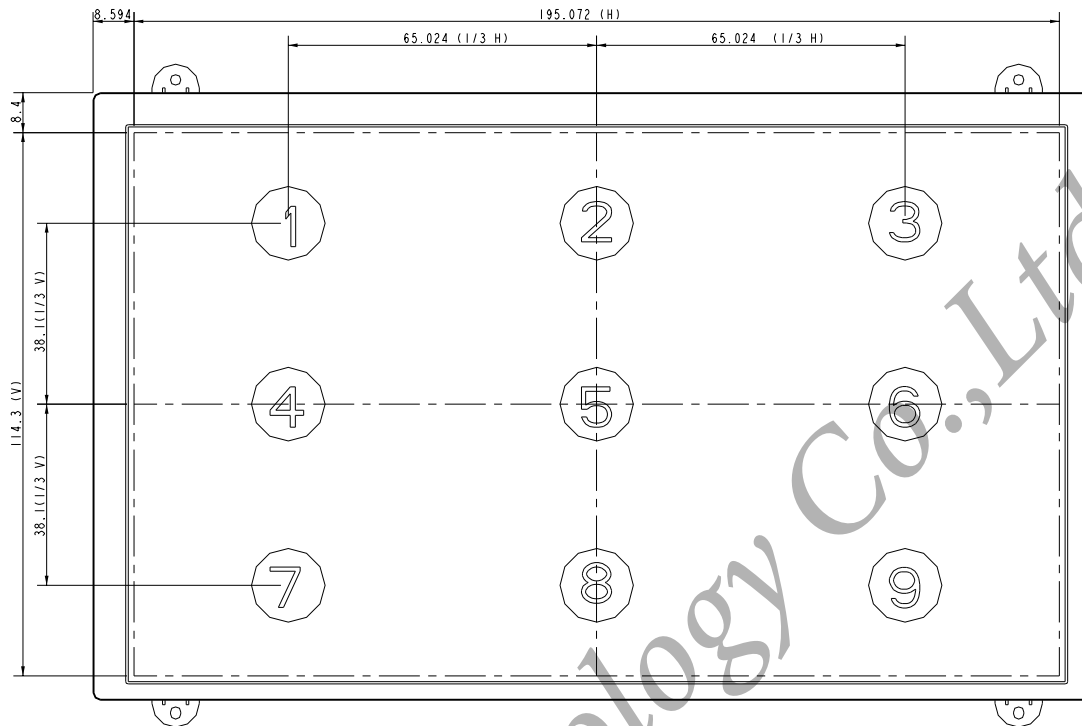

Fig. 8-1 Measuring point
*3) Definition of Luminance: Measuring white luminance on the point-5 as figure 8-1
Definition of Luminance Uniformity: Measuring white luminance on the point1 to 9 as figure 8-1